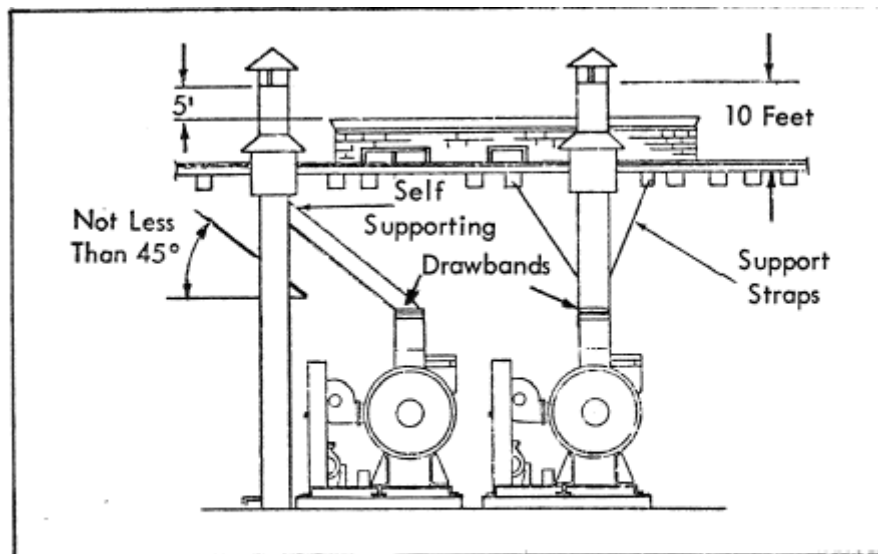

Figure 2, Recommended Stack Installation
7.1 The recommended installation is to have the stack supported independent of the heater and run straight up to the outside with drainage provided at the bottom. If this is impossible, a second choice of stack installation would be for the heater stack to enter the main stack at no less than 45° as illustrated in Figure 2. An alternate to the above installation is illustrated in Figure 3 and discussed in paragraph 7.6.
7.2 A vertical stack should extend through the roof and have provisions for drainage. The heater should not be used to support the weight of the stack. (See Figure 2)
7.5 The stack should be designed with the required bracing, or hangers to be self- supporting. (See Figure 2) A section of the stack should be removable to permit inspection for corrosion and soot buildup. An inspection door or panel may be inserted if removal of a section of the stack will be difficult, the minimum recommended material thickness for stacks and breeching is 14 gauge. Stack connection sizes are shown in Table 3A.